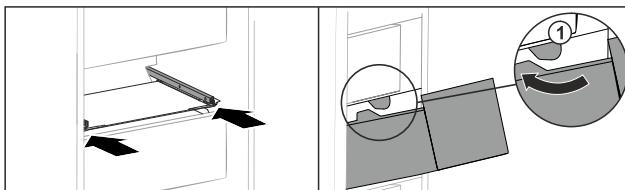

Fig. 137
- ▶ Guide drawer around the stoppers Fig. 137 (1).